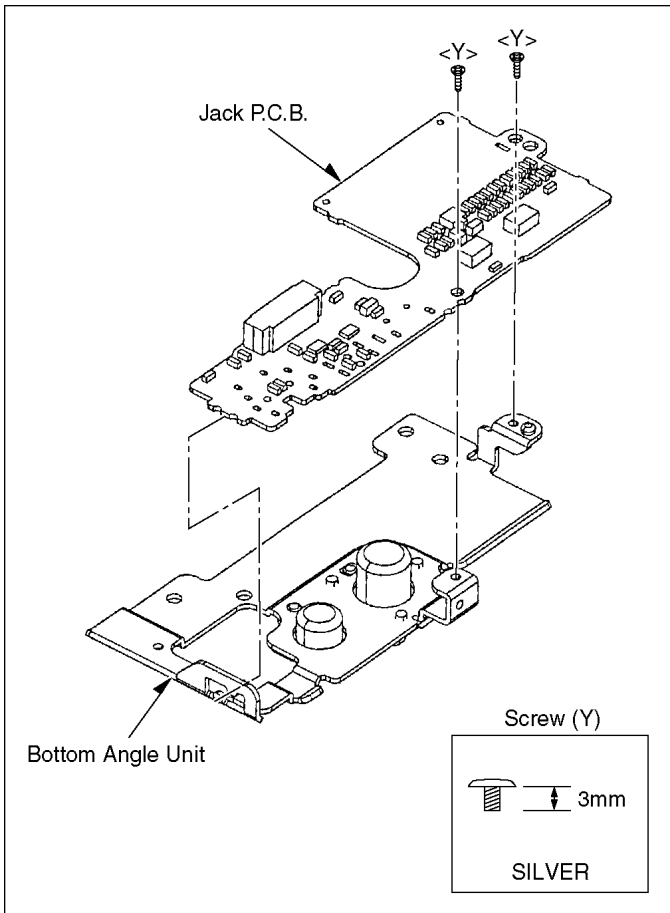

Fig. D21
| 14 | Jack P.C.B. | Fig. D21 | 2-Screws (Y) Jack P.C.B. |